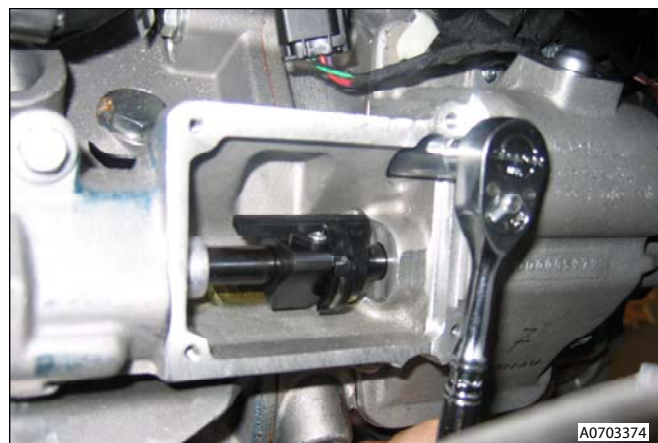

Figure 2
5. Remove shifter unit (bolts x6, nut x1) and release from dowels (x2) (see Figure 2).